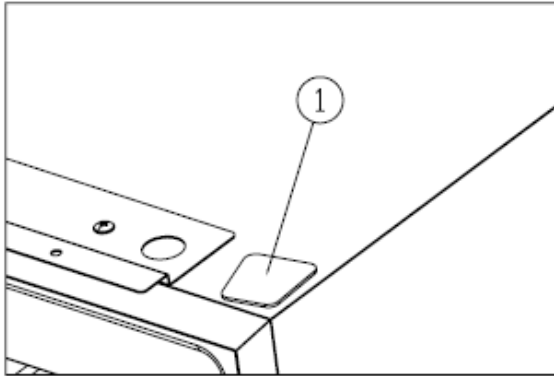

Figure 4
- ✧ Install the germinal lid ①. [Figure 4]